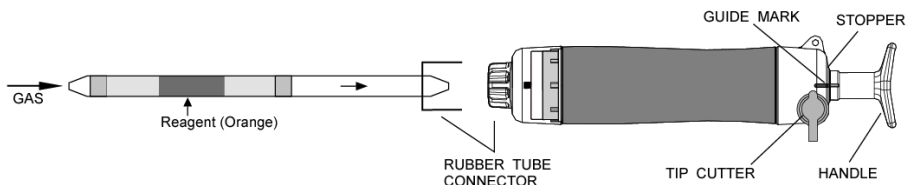

Fig.1
- ② Insert the detector tube into aspirating pump securely as shown in Fig.1. (Arrow mark shall point to the pump.)
- ③ Align the guide marks on the shaft and stopper of the aspirating pump.
- ④ Pull the pump handle at full stroke until it locks and wait for 20 seconds or until the completion of sampling is confirmed with the flow indicator of the pump (See descriptions about the flow indicator in the instructions of the pump).
- ⑤ In case that 1mm to 3mm length of the discoloration (Black or Dark green) of the Reagent is gotten, it shows the presence of organic gas.